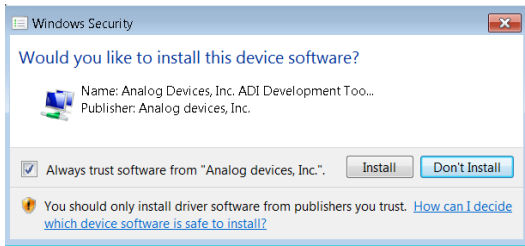
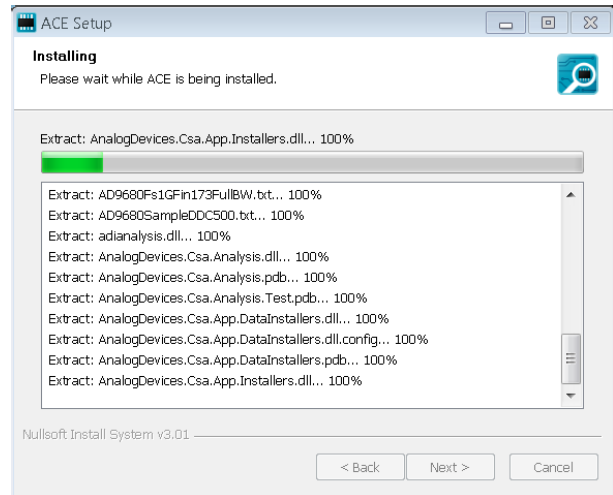

Figure 7. Windows Security Window
Figure 8. Installation in Progress
- The **Windows Security** window appears (see Figure 7). Click **Install**. Figure 8 shows the installation in progress. No action is required.